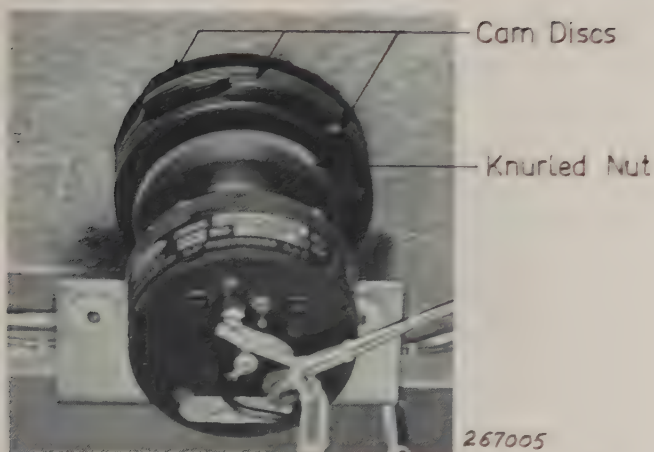

Fig. 4.3. Cam disc arrangement for blocking of Generator output signal
2. Loosen knurled lock-nut (Fig. 4.3) sufficiently for the outer and inner cam discs to be moved in relation to the one in the middle.